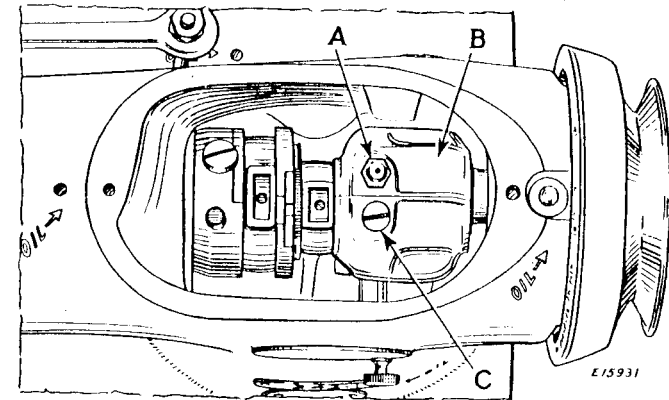
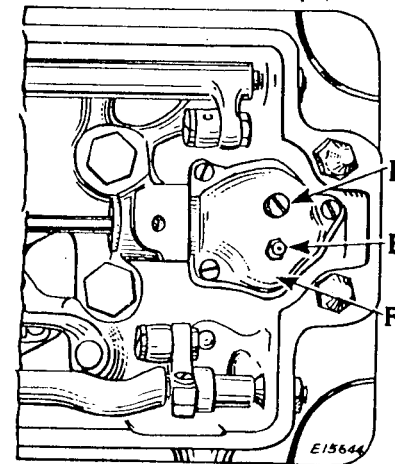

Fig.4. Top View, Arm Top Cover Removed. Upper Gear Case Lubrication
Fig.5. Lower Gear Case Lubrication.
Use GEAR LUBRICANT sold only by Singer Sewing Machine Company. When the machines leave the factory, the gear cases are packed with sufficient GEAR LUBRICANT for approximately 160 hours of operation. Every 160 hours of operation thereafter, replenish the gear cases (B, Fig.4) and (F, Fig.5) with GEAR LUB-
RICANT (marked for use with Class 245 Machines), using, for this purpose, SINGER Grease Gun 121587 (3 oz. capacity) or SINGER Grease Gun 121588 (1/2 lb. capacity). These grease guns are supplied on order at extra charge. Take out the two screws which fasten the arm top cover to the machine arm and remove the level hole screw (C, Fig.4). After making certain that the lubricant is issuing from the grease gun, apply lubricant through the grease fitting (A, Fig.4). Do not overfill the gear case, nor apply enough to cause it to emerge from the hole at (C). The quantity can be roughly checked by observation through the hole at (C). Replace screw (C) and arm top cover.
Lay the machine back on its rear side and remove level hole screw (D, Fig.5) and apply lubricant through grease fitting (E, Fig.5) in the same manner and in the same quantity as for gear case (B, Fig.4).